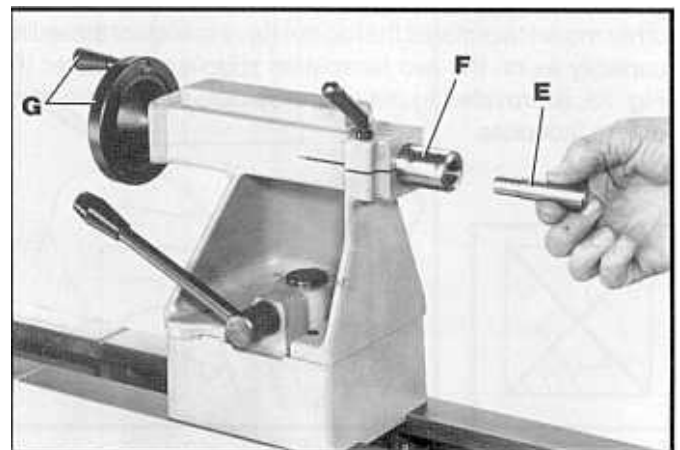

Fig. 24
2. Insert ejector (E) Fig. 24, into tailstock spindle (F) as shown. **NOTE:** The ejector (E) enables you to remove the tailstock center by unscrewing handwheel (G).